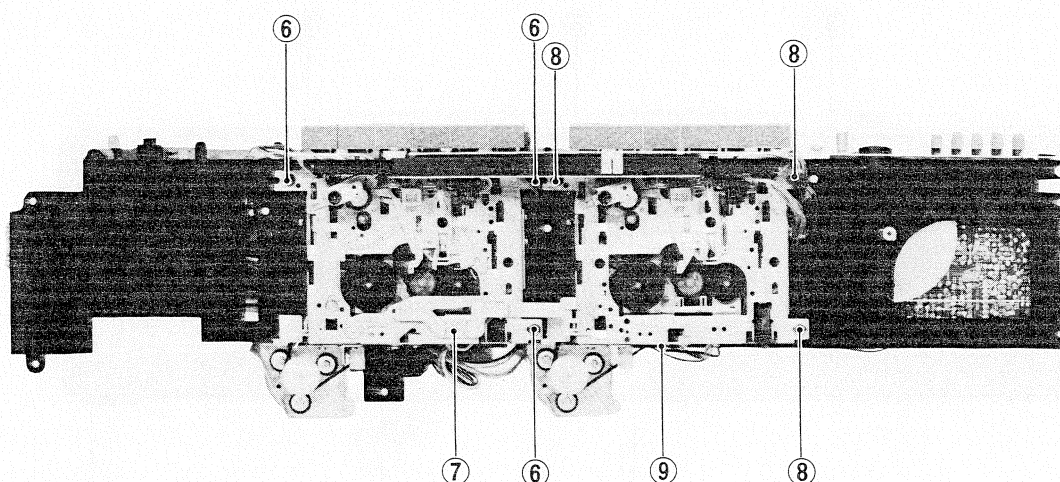

Fig. 9
Removing the cassette mechanism Ass'y (A) (Fig. 9)
1. Unscrew three screws (6) : SBSF3008Z and collar screw (7) to remove the lever Ass'y.
2. Disengage connectors CN802 and CN804 to remove the cassette mechanism Ass'y (A)
Removing the cassette mechanism Ass'y (B) (Fig. 9)
1. Unscrew three screws (8) : SBSF3008Z and screw (9) : SDST2605Z.